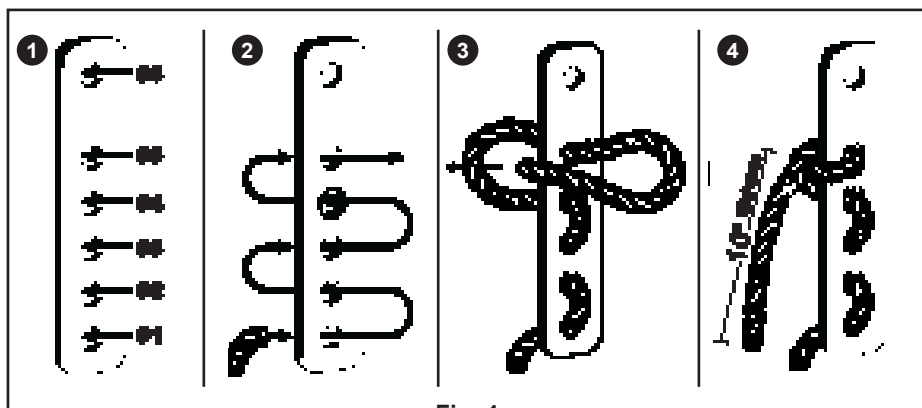

Fig. 4
D.2 As shown in Figure 4 the worker must thread the lifeline through the HOLD-ME® correctly. There must be at least 10 inches (25.4 cm) of extra lifeline left on the “tail” after the rope has been threaded through the HOLD-ME®. While the worker is threading the rope through the HOLD-ME®, they must be certain that every loop of the lifeline is tight.